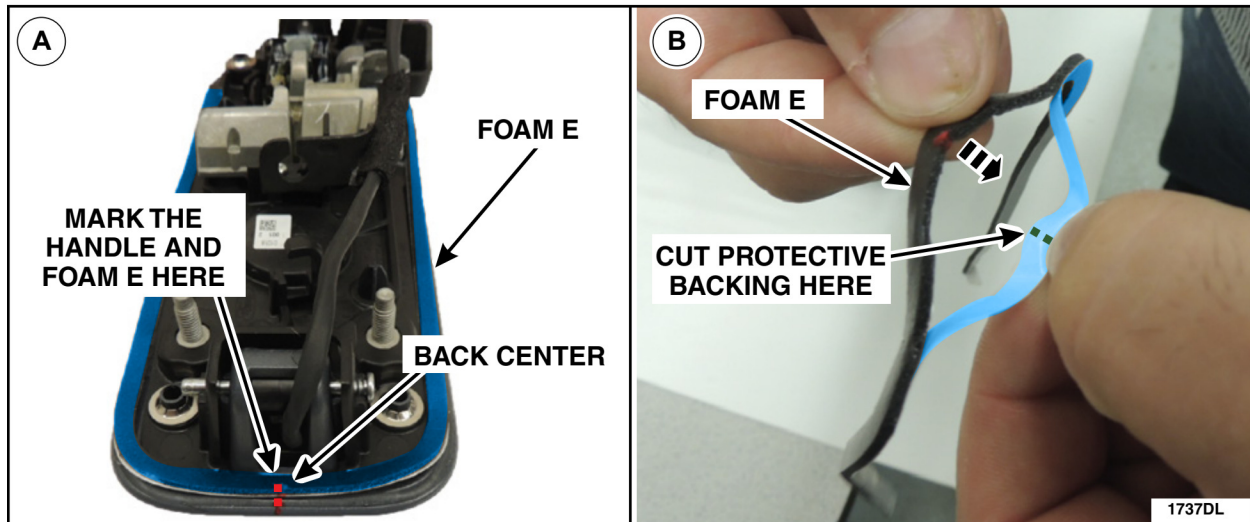

FIGURE 22
- A. Lay out foam E on the exterior door handle and mark center as shown in Figure 22.
- B. Remove foam E from the door handle and remove the back center portion of the adhesive backing then cut the protective backing in half. See Figure 22.